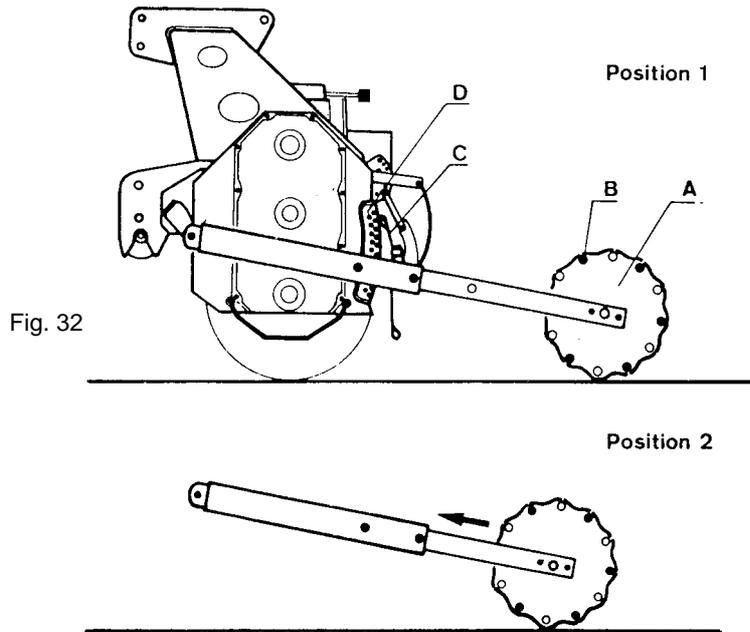

Fig. 32
See Fig. 32. Crumble roller with two positions (I) and (II).